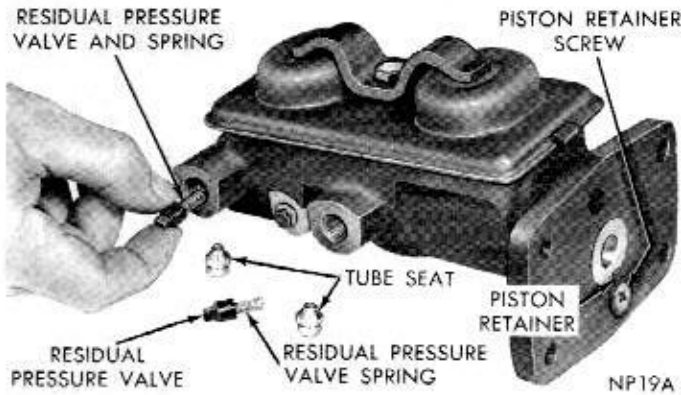

Fig. 3—Removing or Installing Residual Pressure Valve
(1) Remove cover retaining bolt, and clamp then remove cover and gasket. Empty brake fluid from reservoirs.
(2) Loosen piston retainer screw then press in on rear piston and flip retainer down to release rear piston assembly (Fig. 3). Slide rear piston assembly out of cylinder bore.
(3) Remove screw and gasket that retains front piston; then, upending master cylinder, tamp (open end down) on bench to remove front piston. If front piston sticks in bore of cylinder, use air pressure to force piston out of cylinder. New cups must be installed at reassembly if air pressure is used.
(4) Remove front piston compression spring from bore.
(7) Remove two residual pressure valves and springs (Fig. 3).